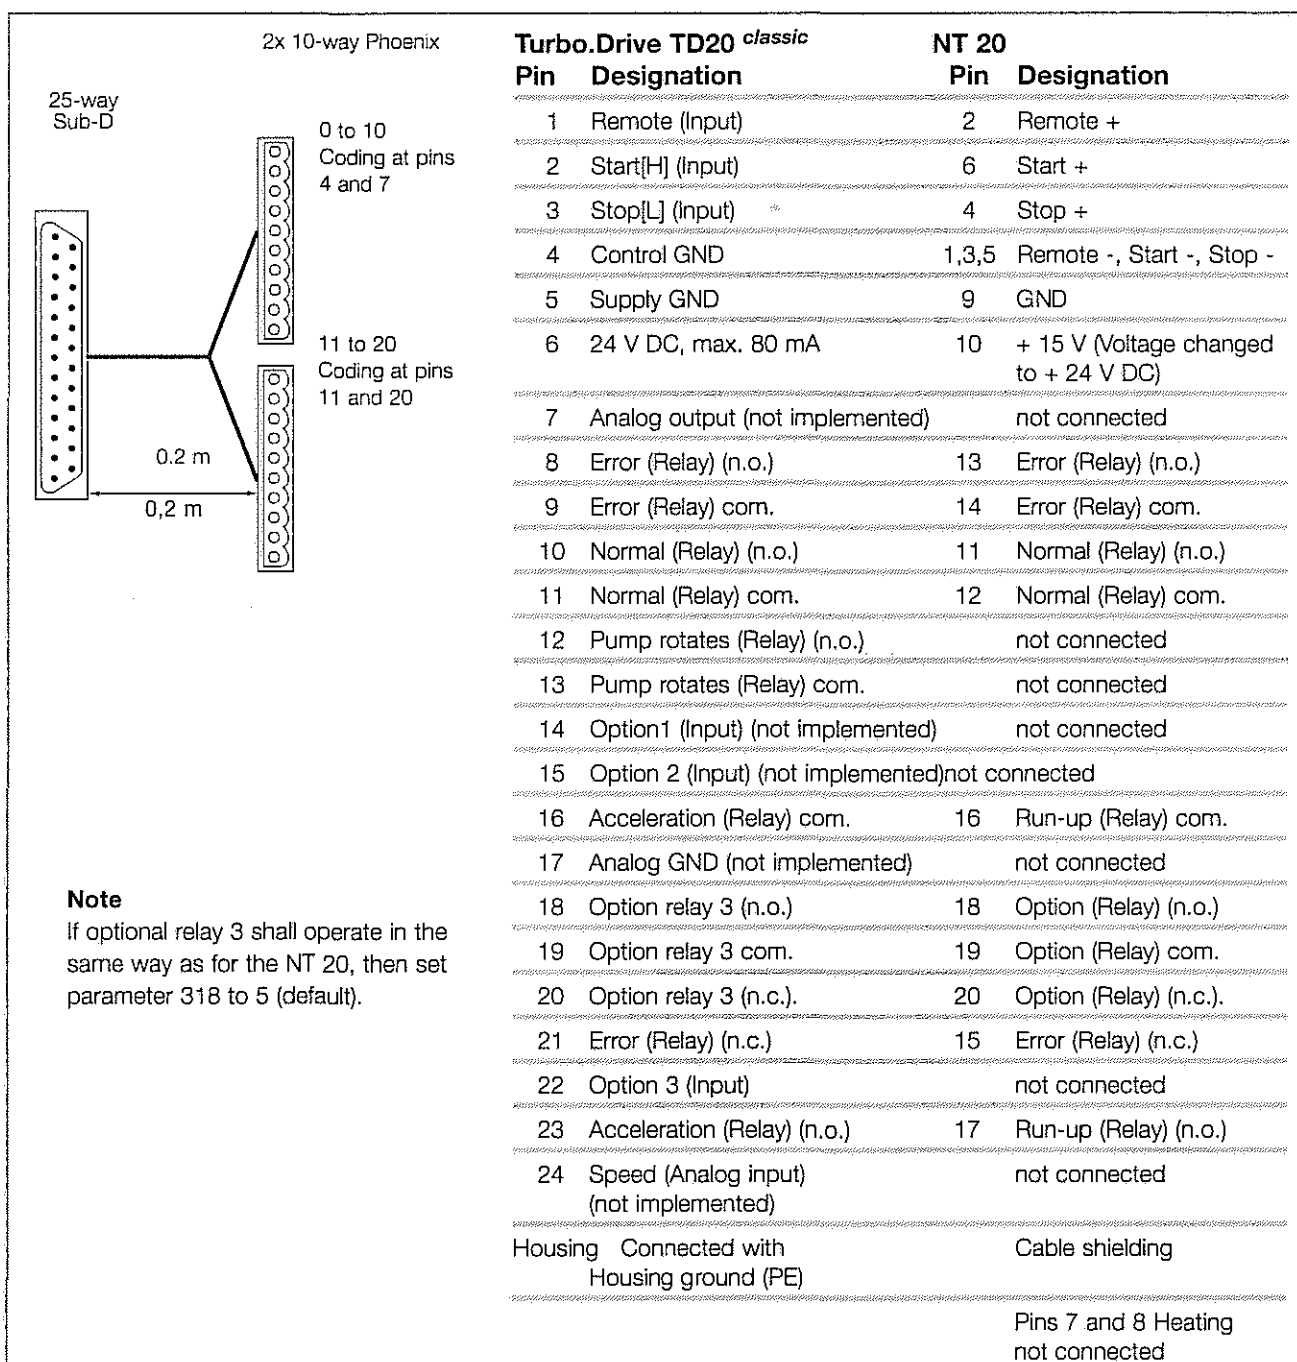

Fig. 5 NT 20 adapter
- for all functions by the optional 25-way PLC interface. When wanting to continue to use the old cable with the Phoenix contact strips, we are offering for this purpose an adapter, see Section 1.5 and Fig. 5.